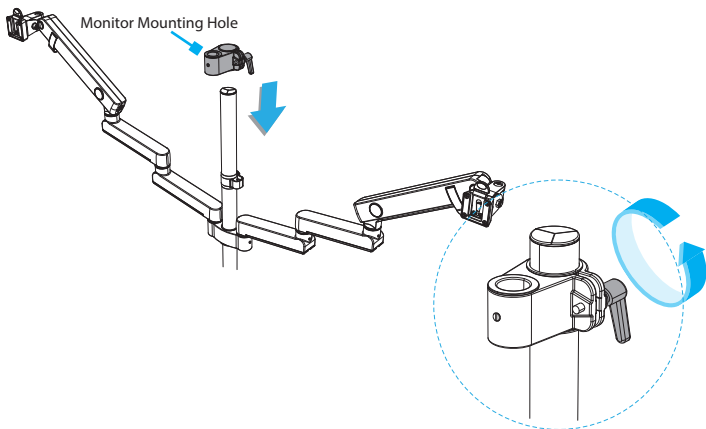

Figure 12
1. Slide the **Center Pole Mount** onto the **Pole** with the **Monitor Mounting Hole** facing towards the user. Rotate the **Handle Clockwise** as many times as needed to secure the **Center Monitor Mount** onto the **Pole**. (Figure 12)